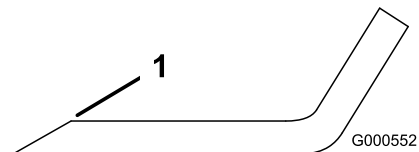

Figure 97
1. Use a file to sharpen the cutting edge at both ends of the blade (Figure 97).
Note: If the blade is not balanced, file some metal off the end of the sail area only (Figure 97).